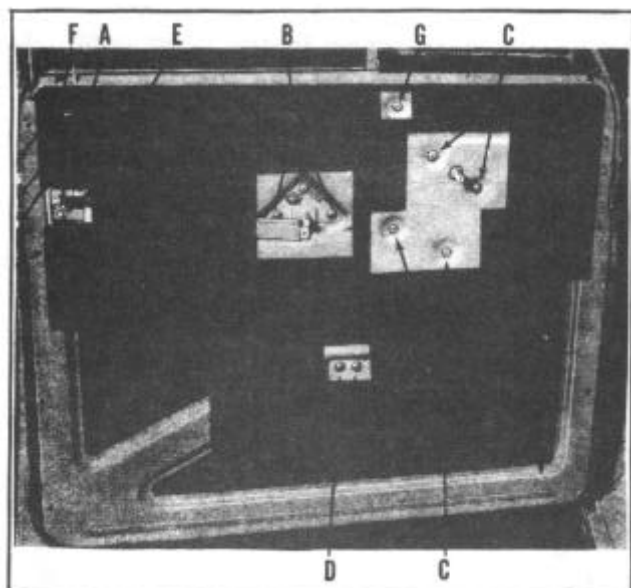

FIGURE 3
2. Cut inner liner as shown in Figure 3, to expose screws (C) and hole (E).
4. Raise the door glass, insert a drift or punch, through opening in door at (E) Figure 3, the drift should be so placed below glass channel to hold glass in a raised position when regulator is removed.
5. Remove screws (C) attaching regulator to door inner panel and remove the regulator through opening at bottom of door.
2. Cut inner liner as shown in Figure 3, to expose screws (D).
3. Remove the two screws (D) attaching center bar glass run to door inner panel.